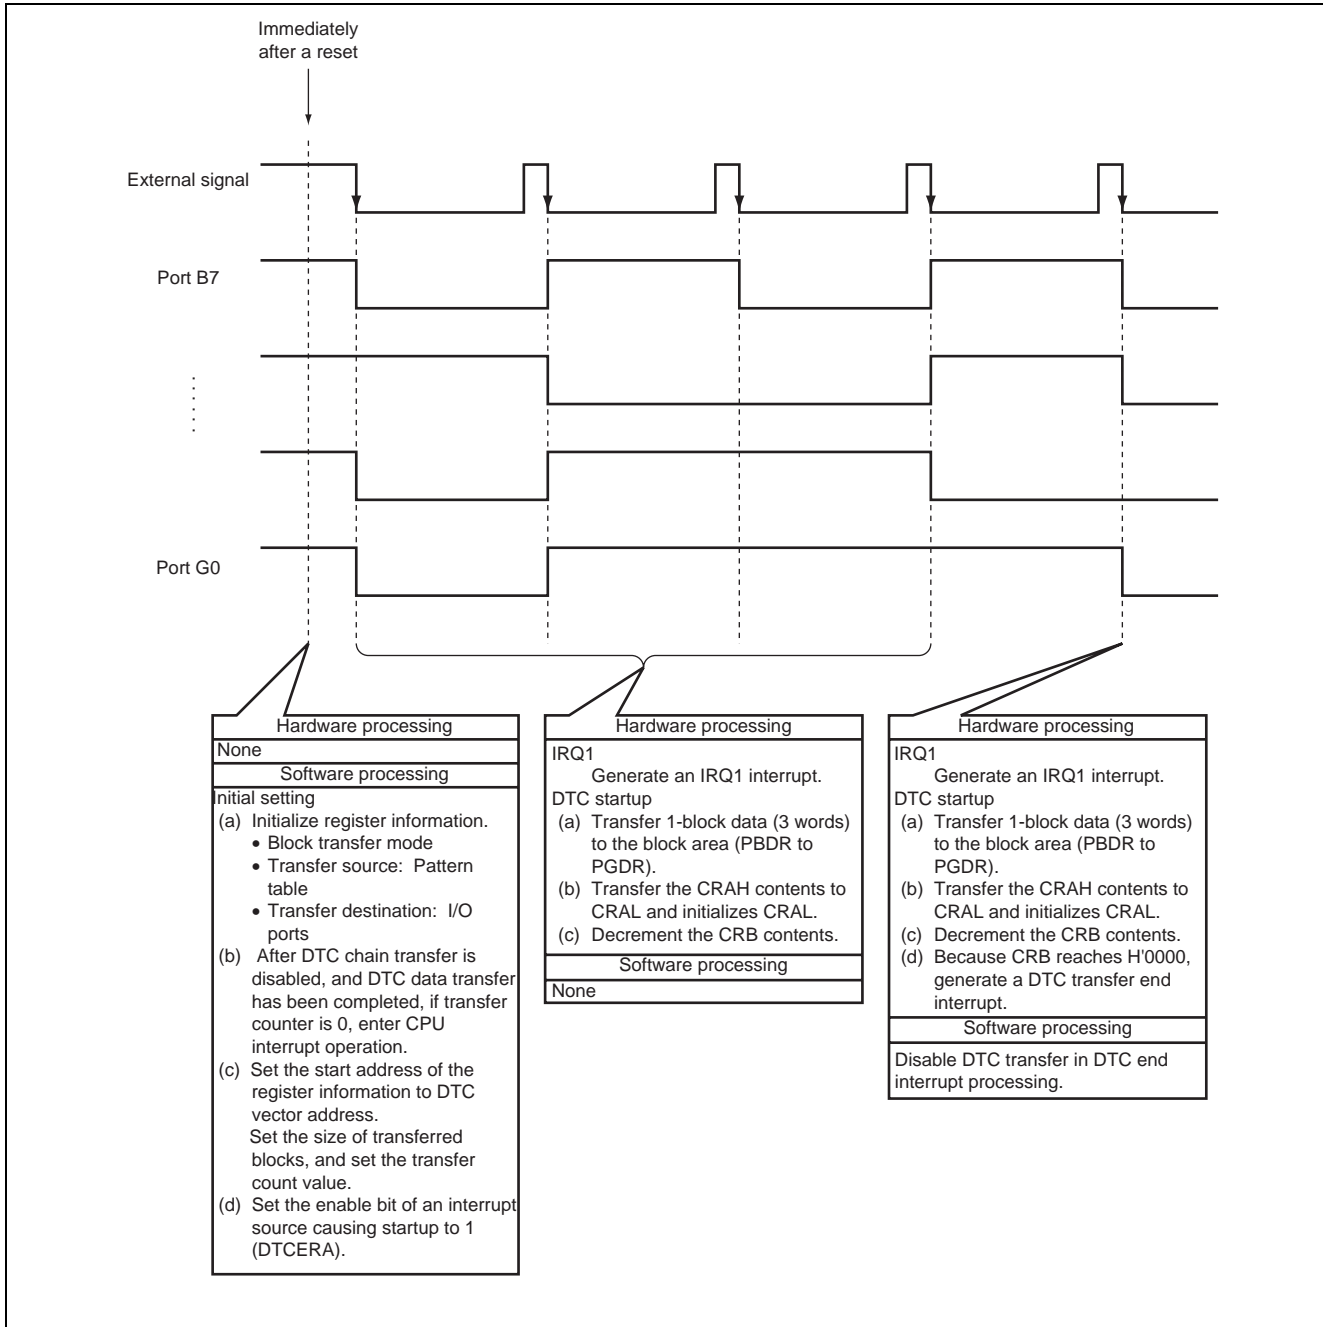

Figure 4 Principles of Operations Used for Block Transfer
1. The principles of operations used of block transfer by DTC are shown in figure 4. This sample task performs hardware and software processing using the timing shown in figure 4 to transfer blocks.